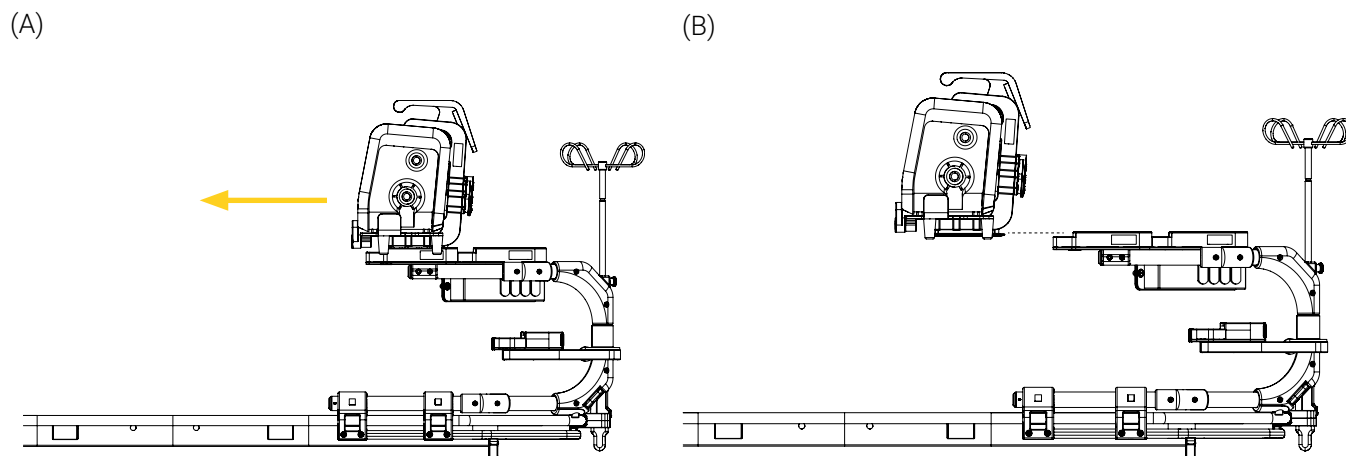
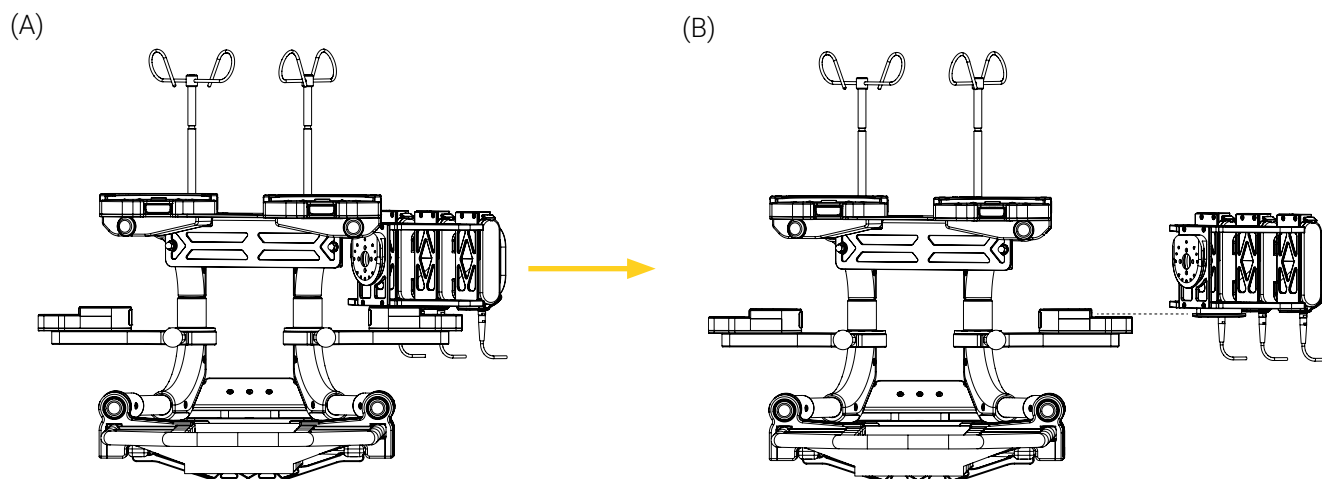

Figure 12: Removing the medical device from the Standard Surface Base
Figure 13: Removing the medical device from the Micro Base
1. Press and hold the quick release button of the Standard Surface Base (Figure 12) or Micro Base (Figure 13), then pull the disc of the support bracket horizontally out of the base.